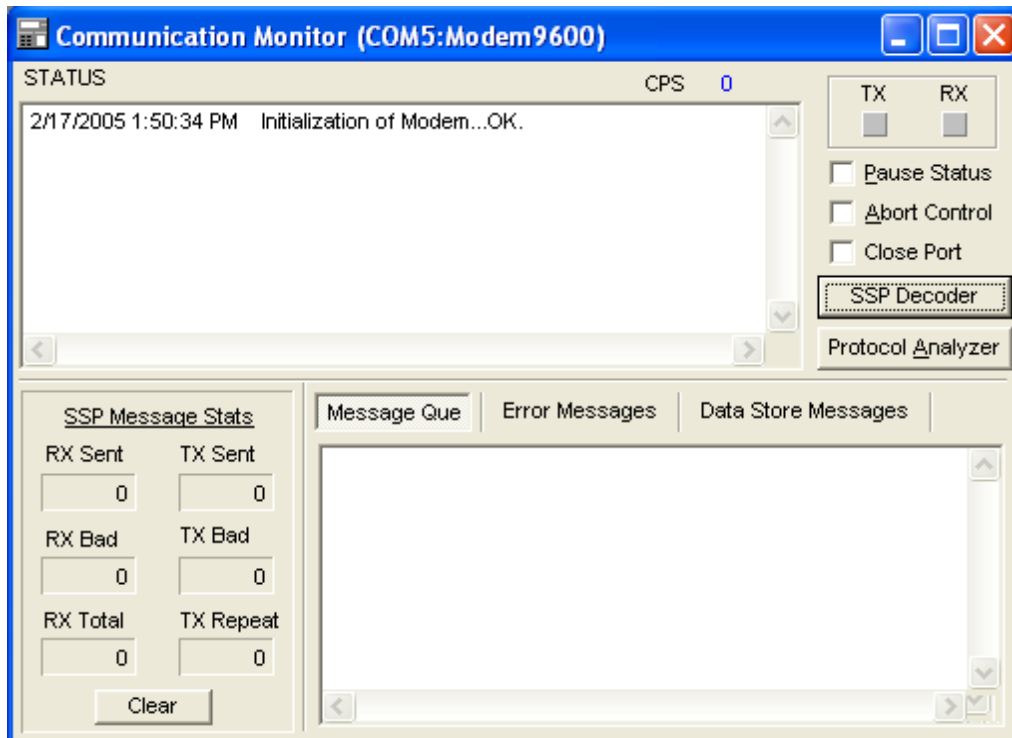

Figure 2. XC Rtu Commnication Monitor window
- Figure 2. XC Rtu Commnication Monitor window4